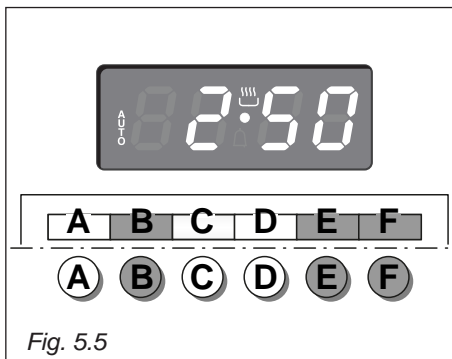

Fig. 5.5
1. Set the length of the cooking period by pushing the "B" button and the "F" button to increase or "E" to decrease if you have passed the desired time (fig. 5.5). The **AUTO** and the  symbol will illuminate.